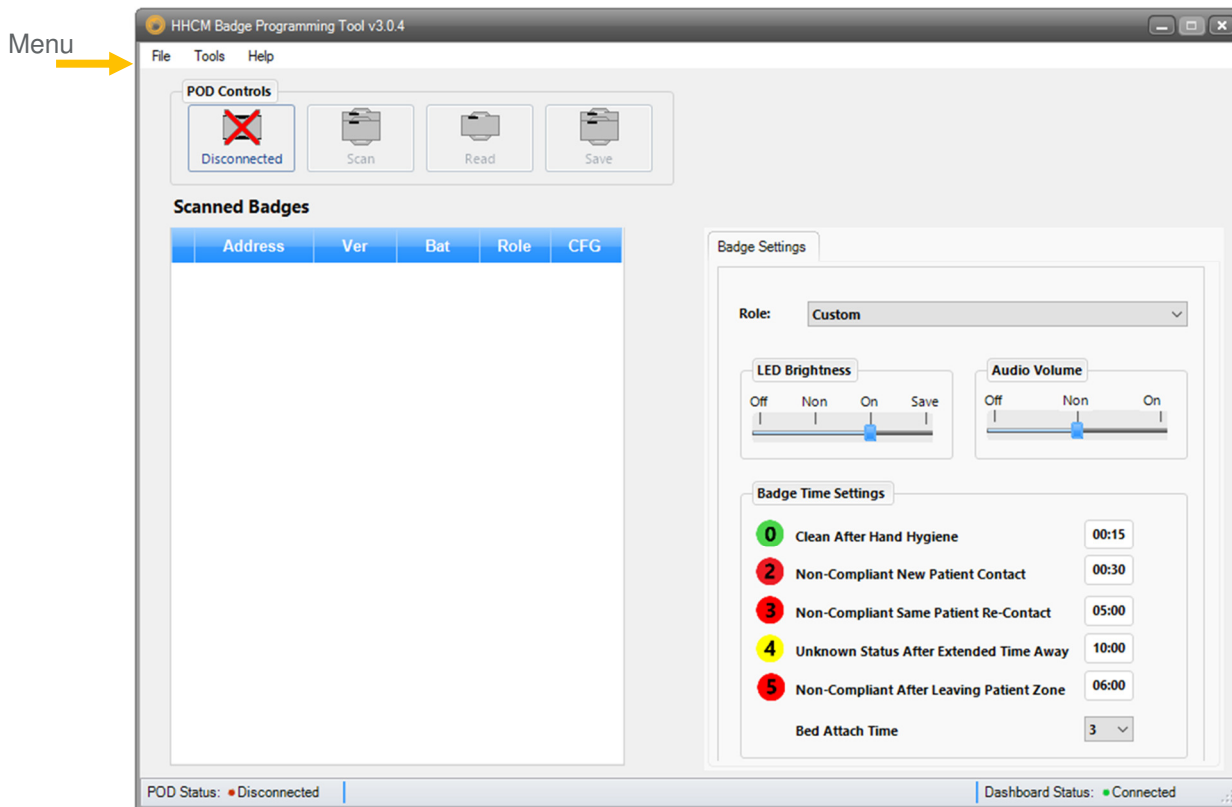

Figure 1. Main Screen
| Figure 1. Main Screen | 3 |
| 3.1 Menu Option (refer to Figure 1) | 3 |
3.1 Menu Option (refer to Figure 1)